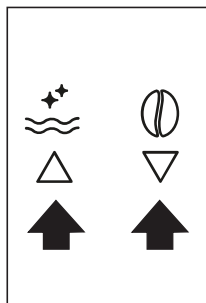
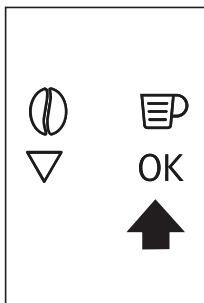

Fig. 9
Fig. 10
- To set the language, use the icons (B7 and B8) to choose the required language (Fig.9). When the message "PRESS OK TO CHOOSE ENGLISH" is displayed, press the (B11) (Fig. 10) for 3 seconds until "ENGLISH INSTALLED" is displayed. If you set the wrong language, follow the instructions in the "Setting the language" section. If your language is not available, select one from those displayed. The instructions refer to the English version. Then follow the instructions displayed.
- Press the (B9) (Fig. 10) and after a few seconds a little water comes out of the spout.